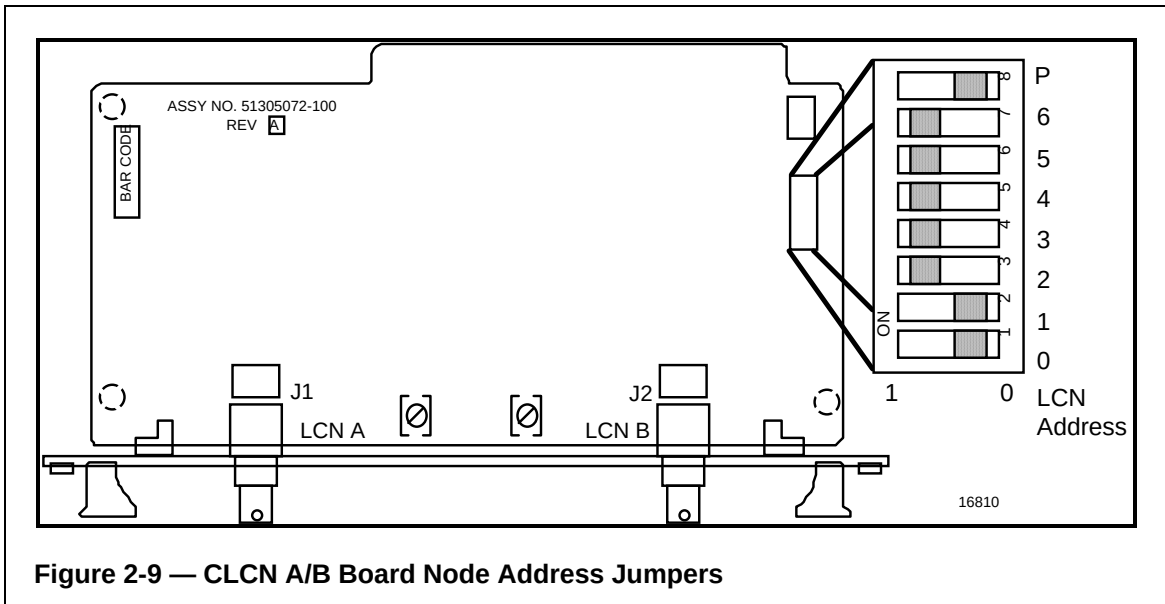

Figure 2-9 — CLCN A/B Board Node Address Jumpers
Figure 2-9 illustrates LCN node address selection on the LCN I/O board. The figure illustrates an LCN node address of three (3). The absence of a jumper is a binary “1.” Parity must be an odd number.
Figure 2-9 illustrates LCN node address selection on the CLCNA/B board. The figure illustrates an LCN node address of three (3). Placing a switch in the zero (0) position is a binary “1.” Parity must be an odd number.